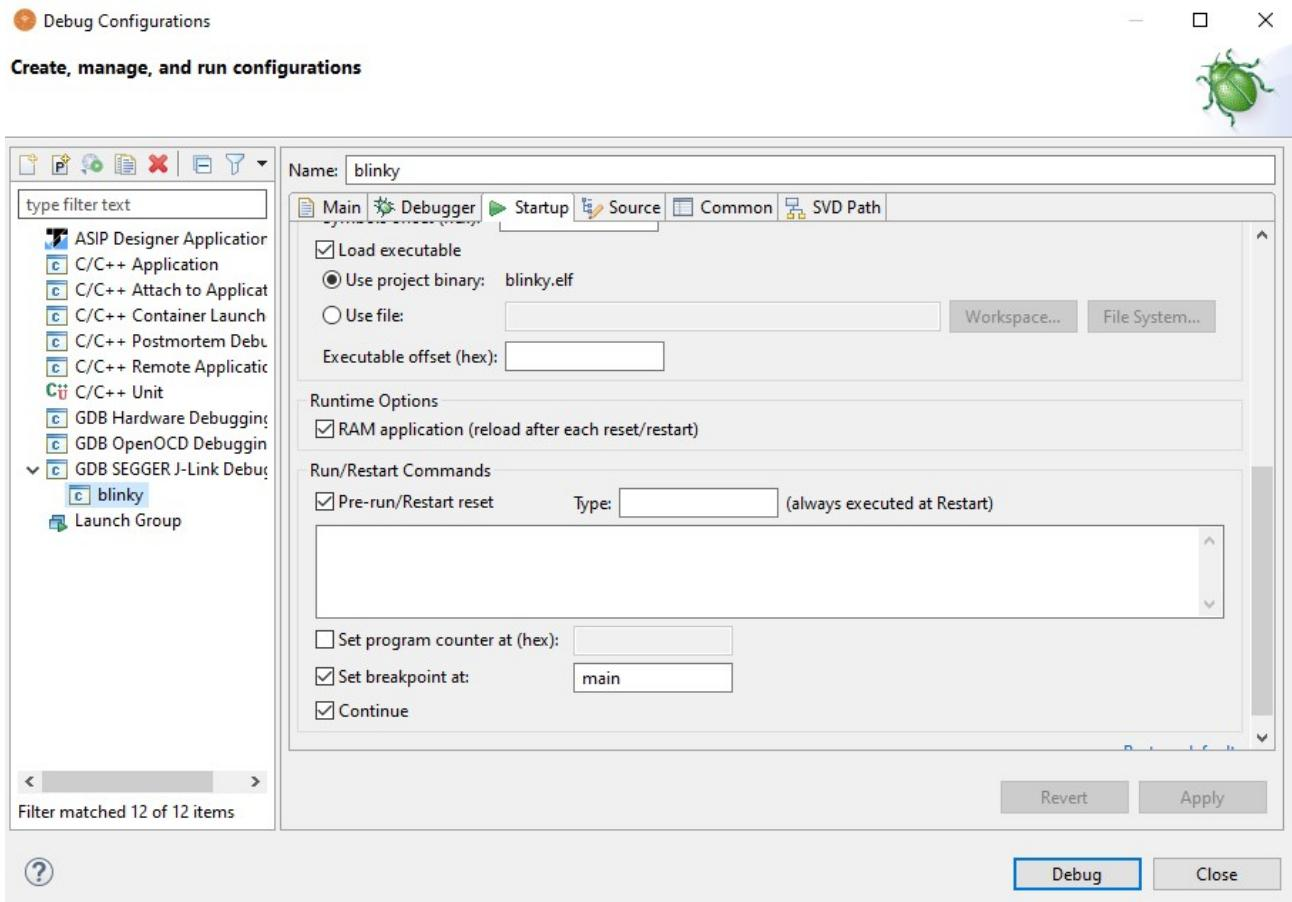

Figure 24. Selecting Runtime Options
c. In the **Startup** tab view under **Runtime Options**, tick the box labeled **RAM application (reload after each reset/restart)**, as seen in figure "Selecting Runtime Options" (Figure 24).